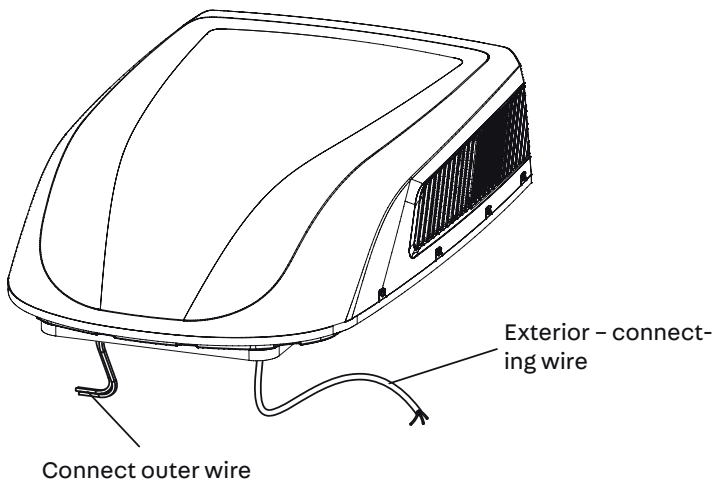

Figure 6
1. As shown in Figure 6, the external unit has two outer wires: the power cable (230 V) and the control signal cable. The power cable should be connected directly to the power supply terminal and the control signal cable should be connected to the control signal wire of the internal unit.